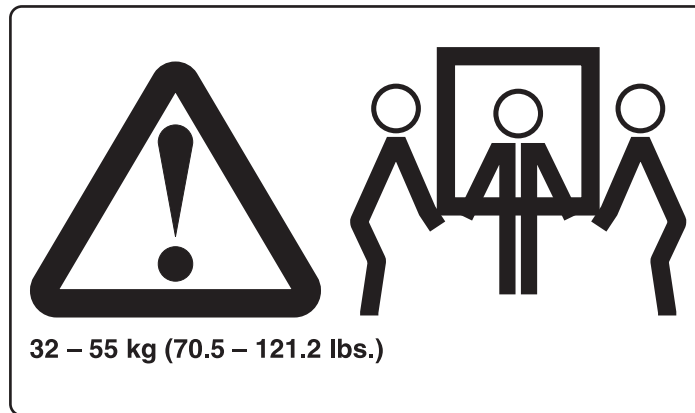

Figure 8. Three-man lift label
3. Three-man lift. See Figure 8.